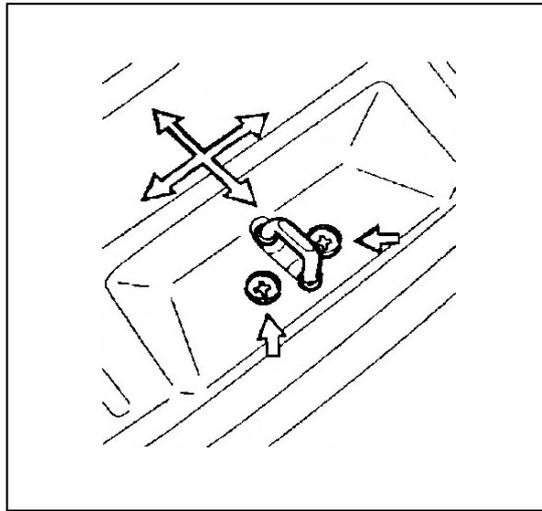

Fig.19-25
- (1) align the striker and latch by moving the striker up and down or outside and inside, see Fig. 19-25. Be sure that the deviation between the center of striker and the latch is within $\pm 1.5\text{mm}$, see Fig. 19-25.
(2) If the gap between the door and body is inconsistent, to adjust the position of the hinge and striker, see fig 19-25.